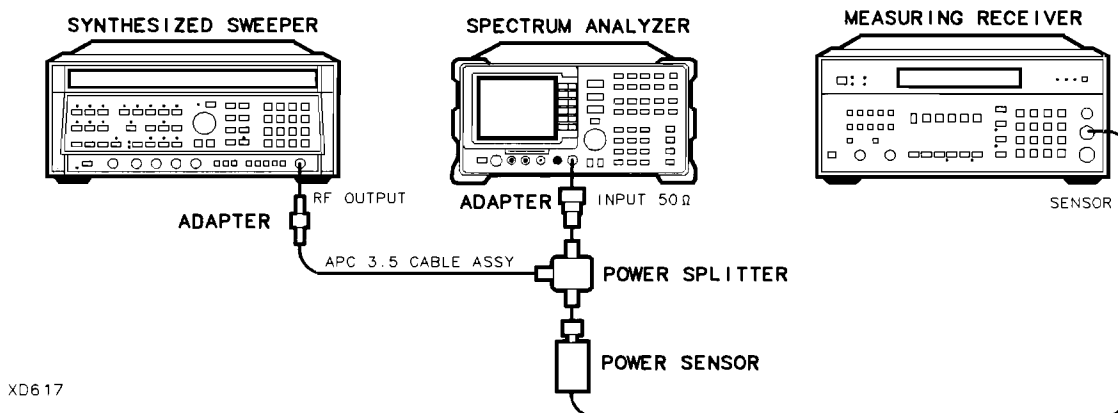

Figure 2-36. Frequency Response Test Setup, ≥ 50 MHz
2. Connect the equipment as shown in Figure 2-36.